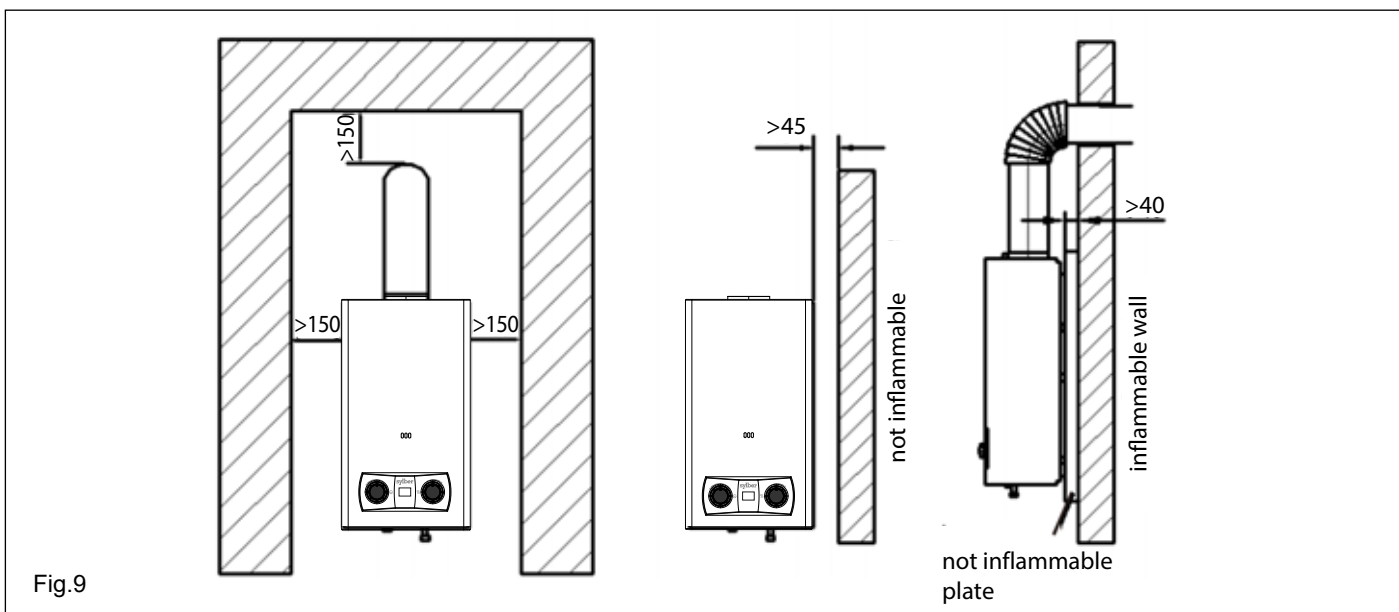

Fig.9
- The flame-view window of the appliance shall be at the level of eyes about 1.55m-1.65m above the floor. (Fig.8), which is ergonomic for flame checking. The appliance must keep certain distances from nearby objects whether inflammable or flame retardant in case of fire accidents (Fig.9).